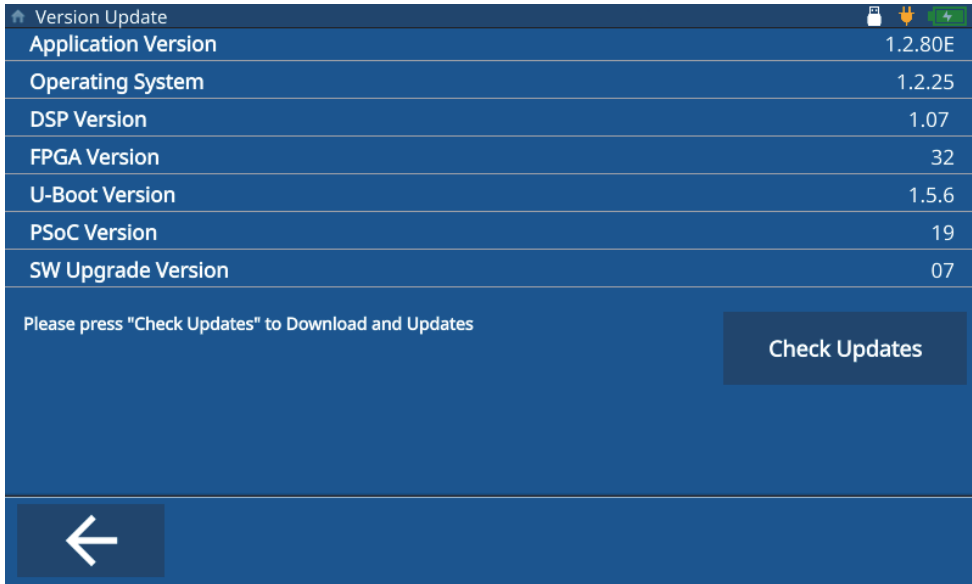

Figure 9-1 Software Update screen
6. The instrument displays the current software version on the screen. Tap **Check Updates** (see Figure 9-1 on page 78).